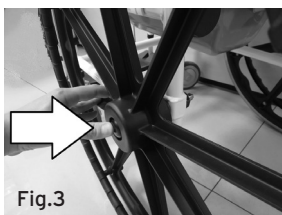

Fig.3
B. Insert the Wheel by using the quick release pins pushing the button (Fig 3). **ONLY RS847**